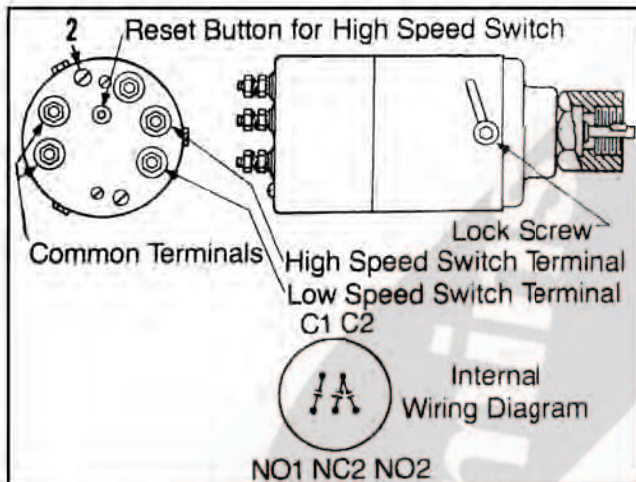

Fig. 1-19 (OM21003). Double speed switch
- a. Remove the round head dust cover screw marked 2 from the top of the switch, Figure 1-19.